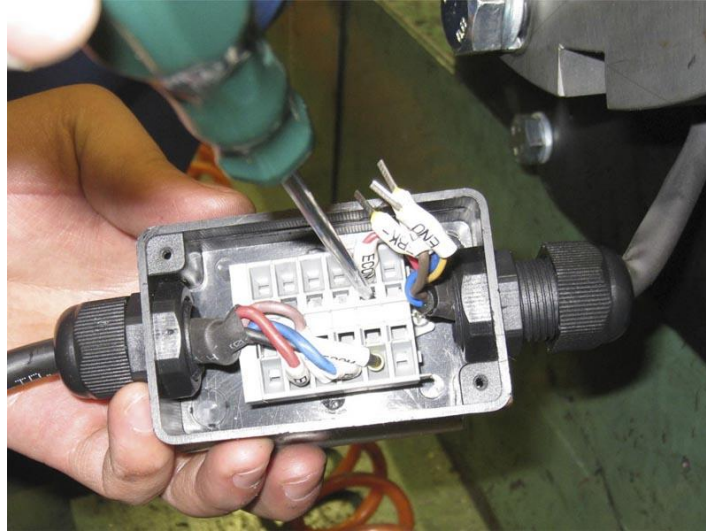

Figure 20: Brake Switch Terminal
2. Take off the brake side cable in brake terminal using a straight head screwdriver, then remove the cable through the connector. See Figures 20 and 21.